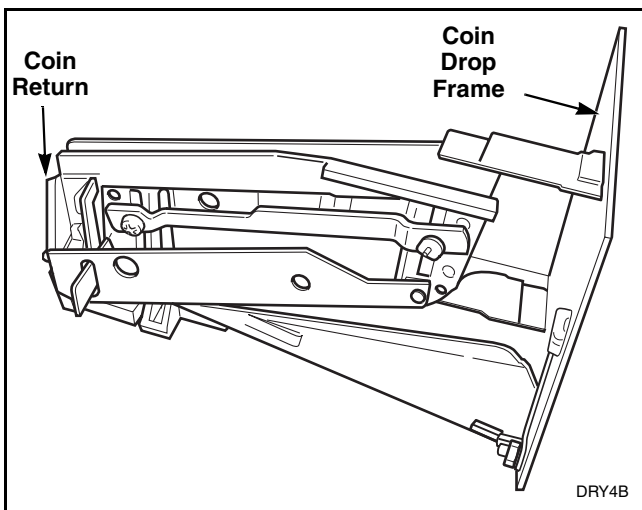

Figure 3
7. Remove the coin return from the coin drop frame. Refer to *Figure 3*.